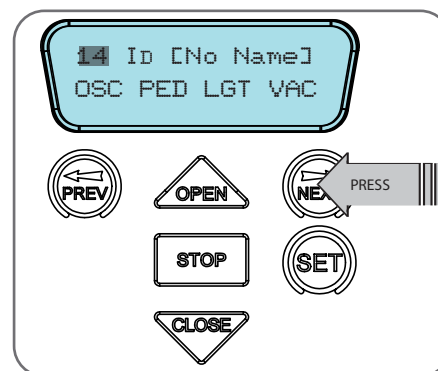

Fig F.4
- Press NEXT or PREV to move the cursor over Store No. (**Fig. F.4**)